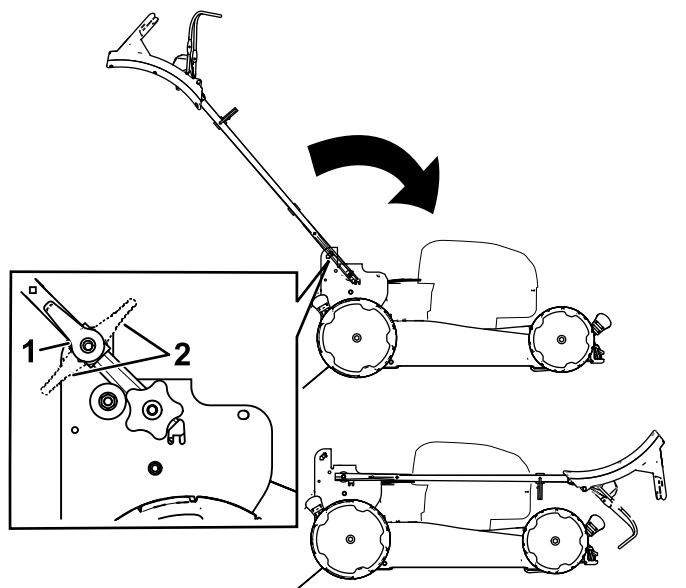

Figure 23
2. Disengage the handle locks (Figure 23).
3. Fold the handle fully forward (Figure 23).